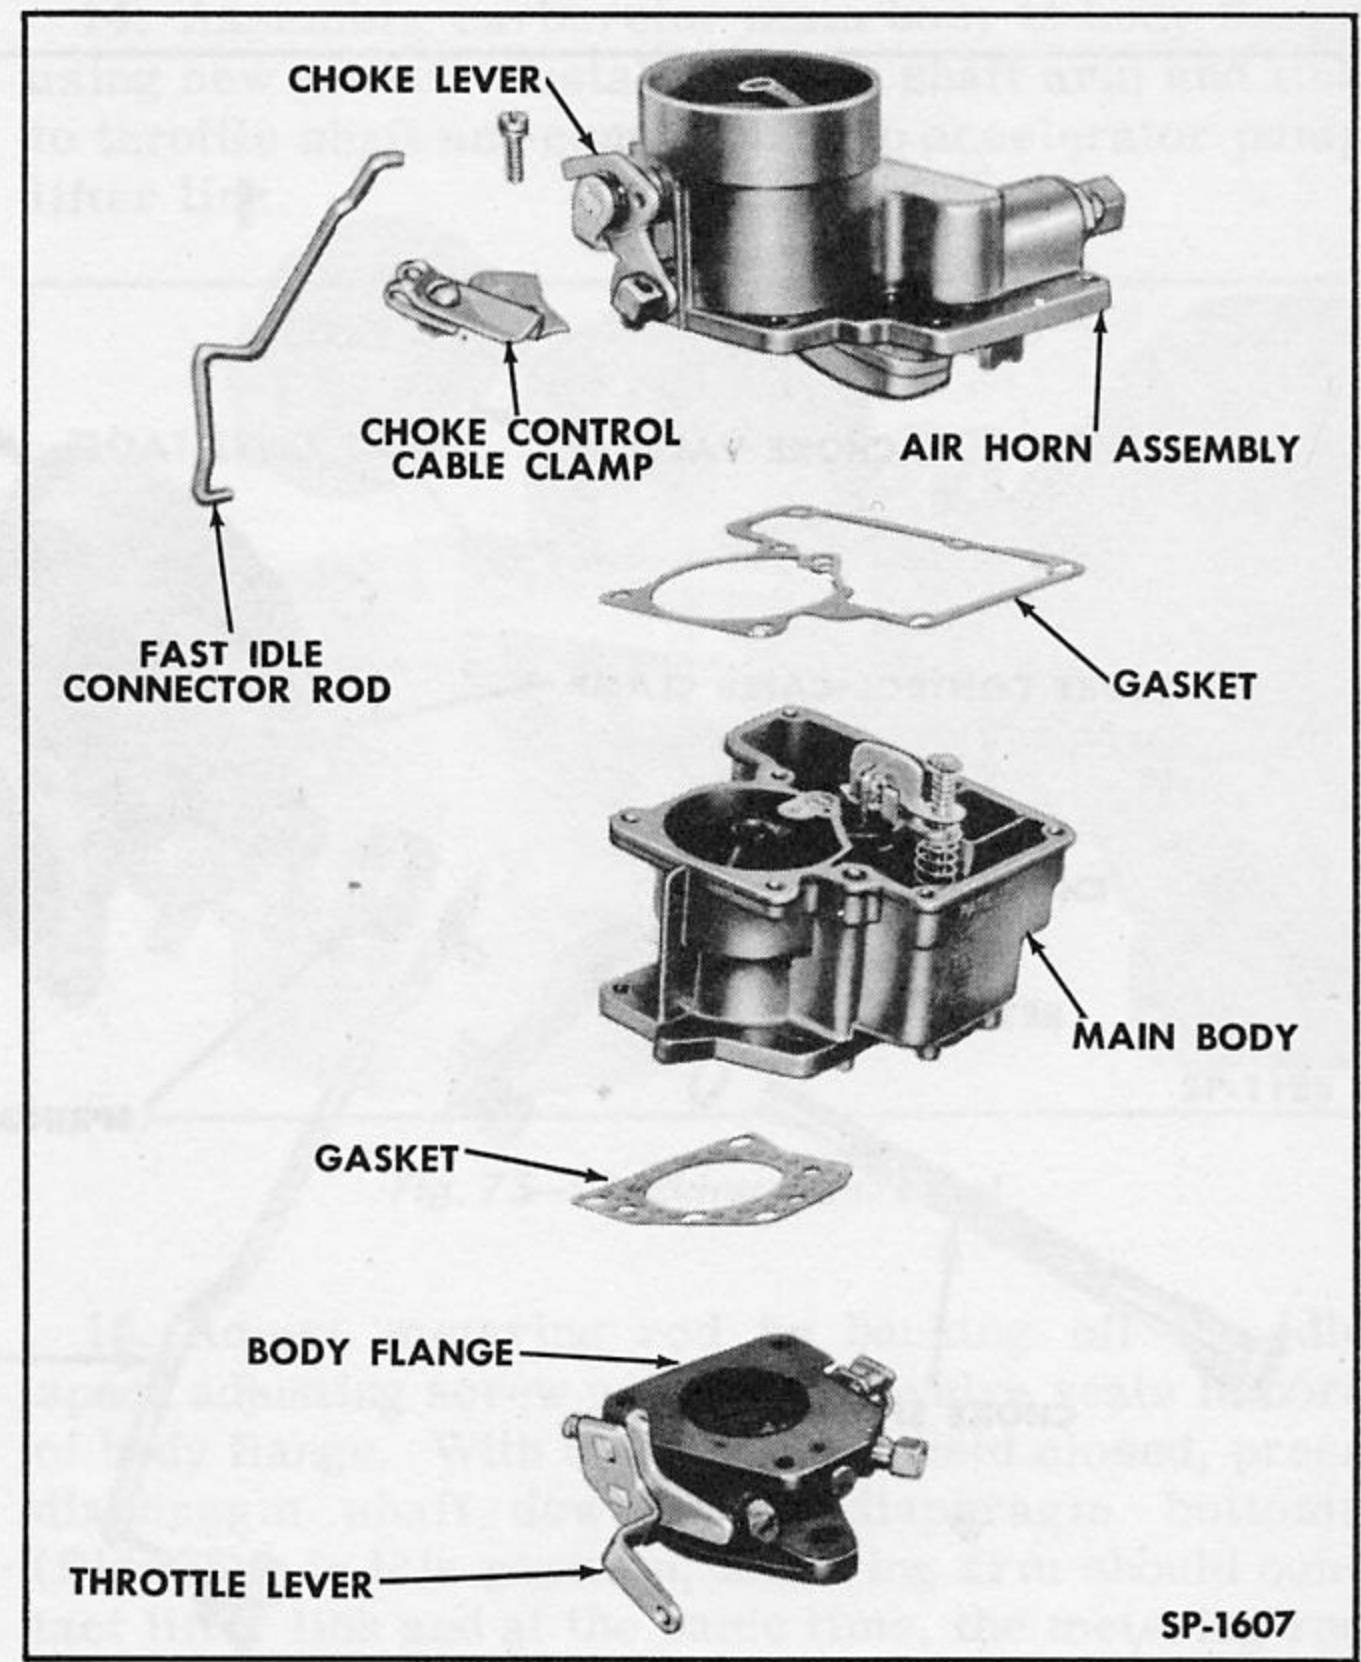

Fig. 71—Typical Carburetor—Exploded View
1. Disconnect fast idle connector rod and remove screws attaching air horn to carburetor main body (Fig. 71). Remove air horn assembly and gasket. Choke tube clamp is removed with one of the air horn attaching screws.